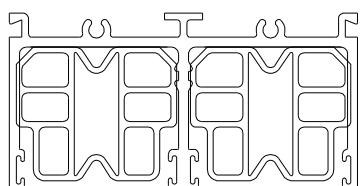

Figure 12:
3. Install head bumpers into head as shown (Figure 12).